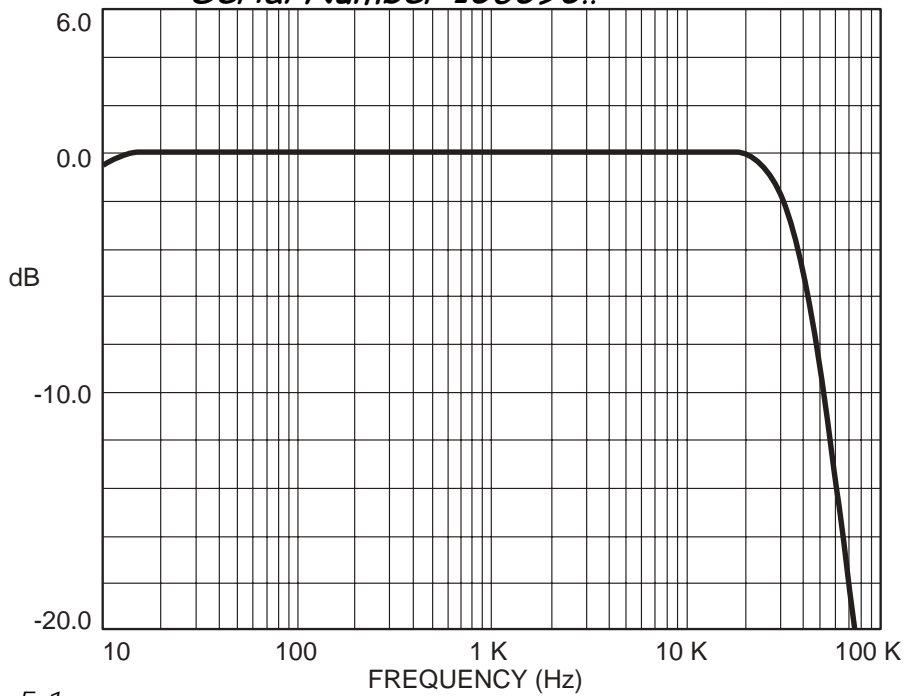

Fig. 5.1
**Frequency Response:**  $\pm 0.25$  dB from 20 Hz to 20 kHz. The frequency response is band limited with an 8-Hz double-integrated 3rd-order Butterworth high-pass filter and a 30-kHz 7th-order Gaussian low-pass filter. Optional Aqua-sediment filter available at your local hardware store. (See Figure 5.1.)